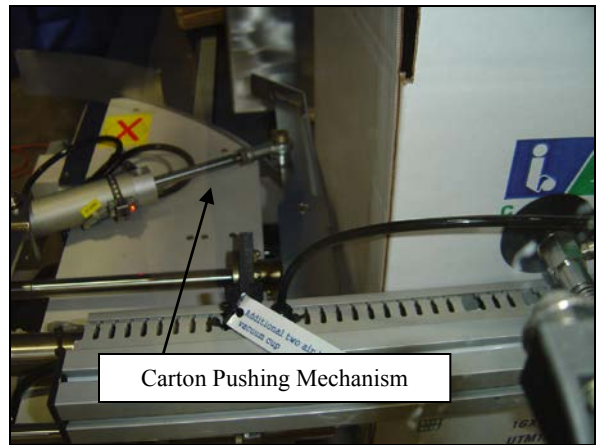

Figure 5.10
9. Move Carton Pushing Mechanism far enough back for case to enter without jamming (Figure 5.10).
10. Reset machine, again make sure is in manual mode; continue pressing “Function On” button until case is in the folding section of the machine; manual code 05 (Figure 5.10).
11. Adjust the Carton Pushing Mechanism until it squares the case (Figure 5.10).
Figure 5.10 show the Carton Pushing Mechanism that squares the case formed already into a sleeve and then bottom flaps folded.